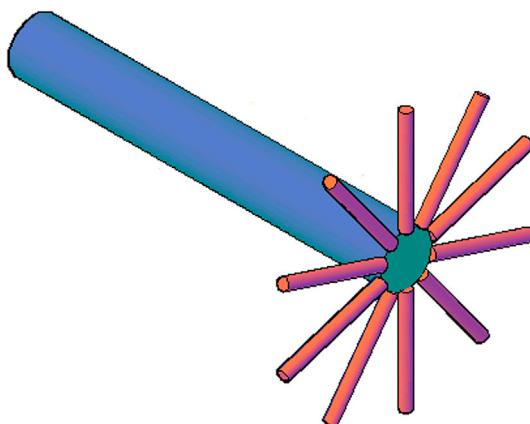

FIGURE 22.16 Completed 3D polar array.
Step 8. Here, you need to pick the second center point using OSNAPS on the other side of the axle. These two points together indicate the axis of rotation for the spokes. The result is shown in Fig. 22.16.